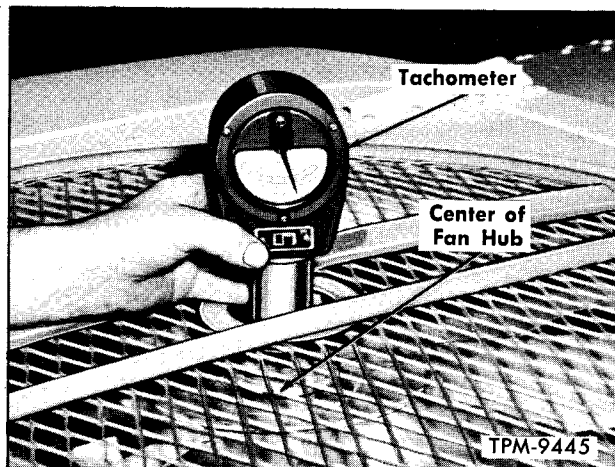

Figure 133—Checking Condenser Fan Speed
1. Using a tachometer (fig. 133) check speed of fan blade which should be 1800 ± 25 rpm when oil in system is hot and engine is at fast idle.